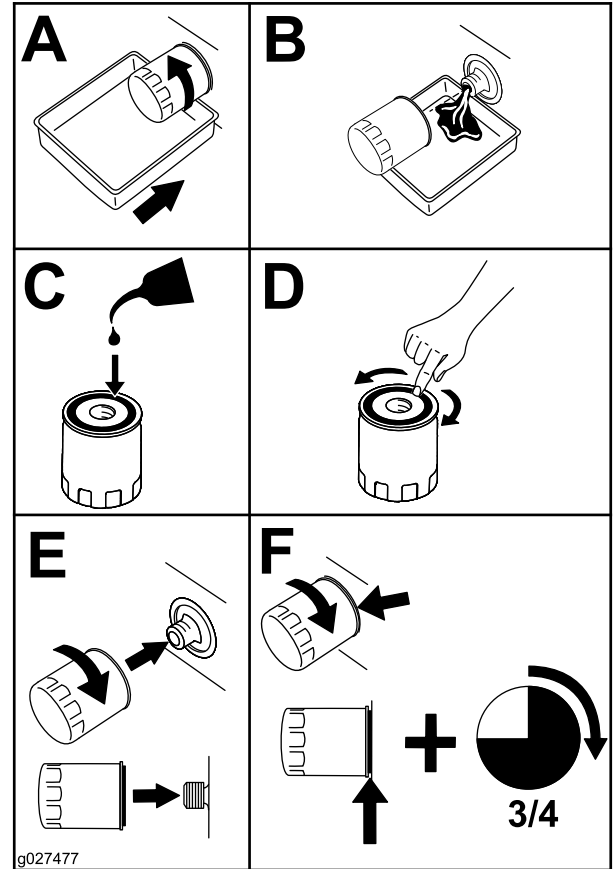

Figure 51
2. Change the engine-oil filter (Figure 51).